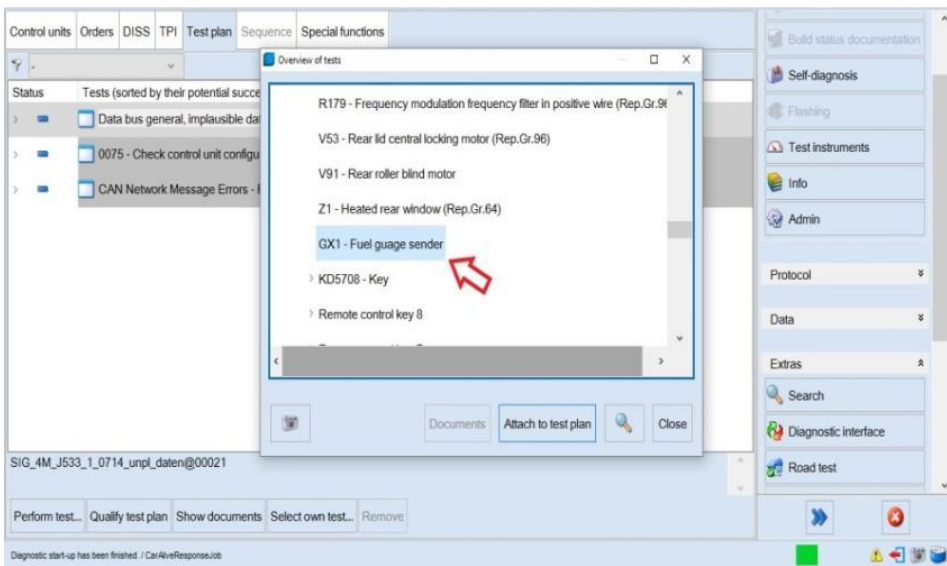

Figure 5
- Select GX1 - Fuel gauge sender (Figure 5)